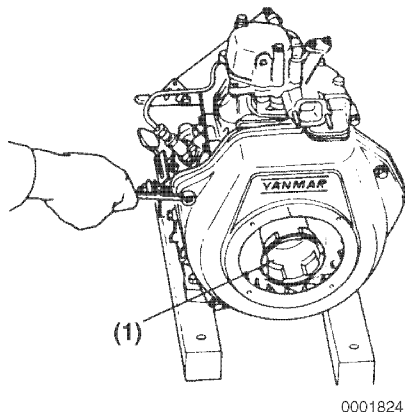

Figure 6-37
13. Remove the cooling fan housing (**Figure 6-37**).
14. Remove the starter pulley from the flywheel (**Figure 6-37, (1)**).